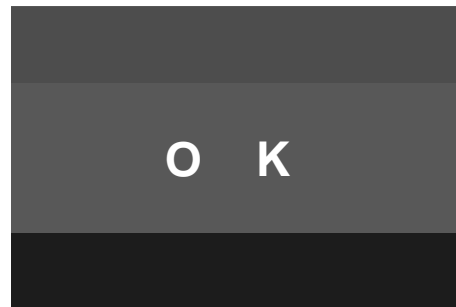

Fig.2
- (3) Check pattern as Fig2 without 3D glasses. (3D mode without 3D glasses)